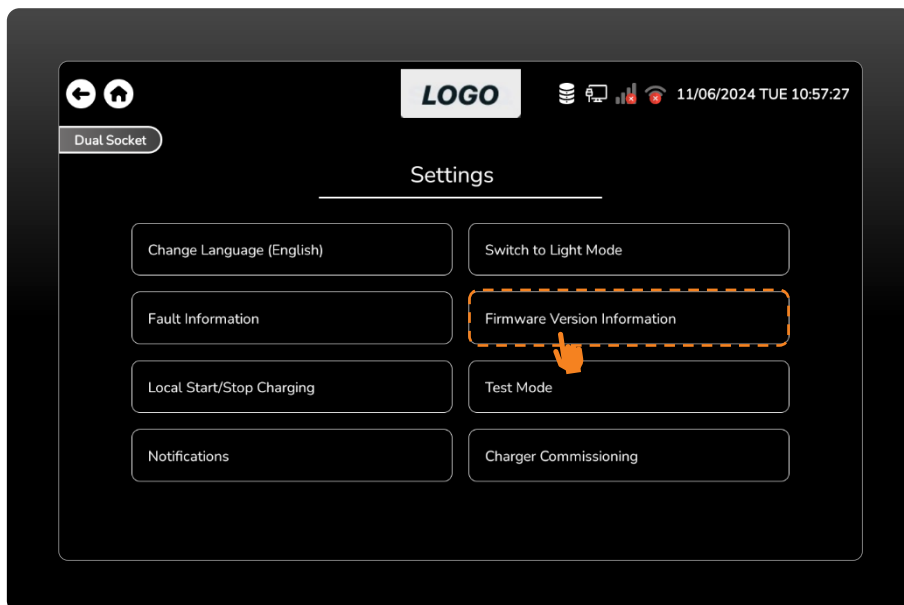

Figure 18 Press the Firmware Version Information.
- Press the “Firmware Version Information” option. (Figure 18)